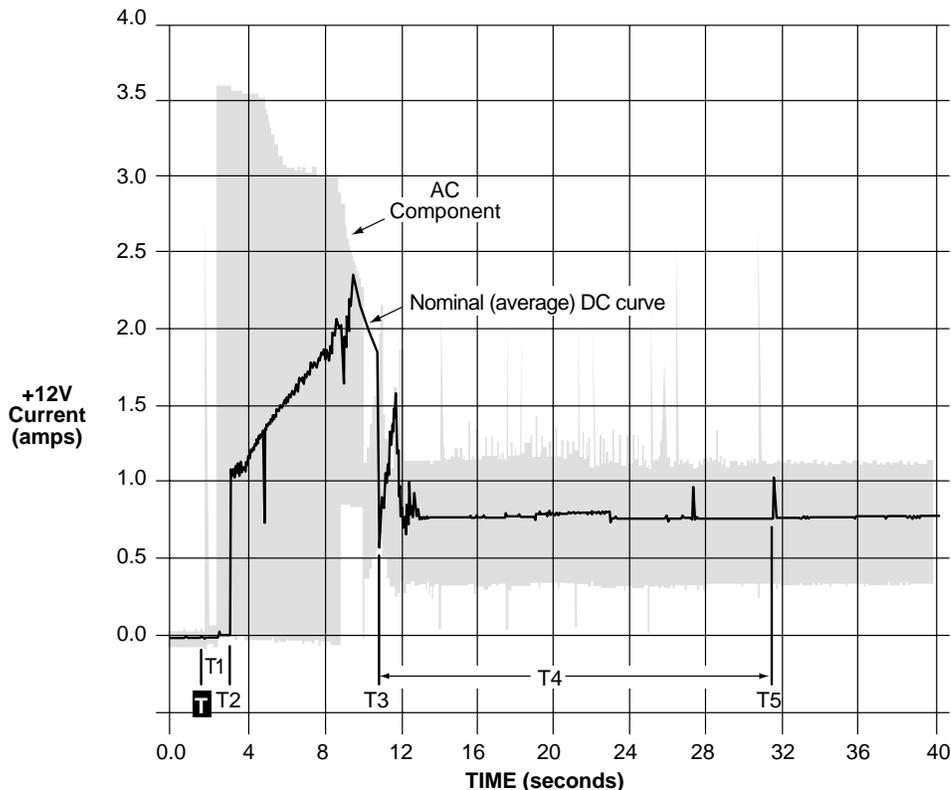

Figure 3a. Typical Barracuda 36 family drive +12 V current profile
- [3] See +12 V current profile in Figure 3a.
Figures 3a and 3b identify the drive +5 V and +12 V current profile. The current during the various times is as shown: